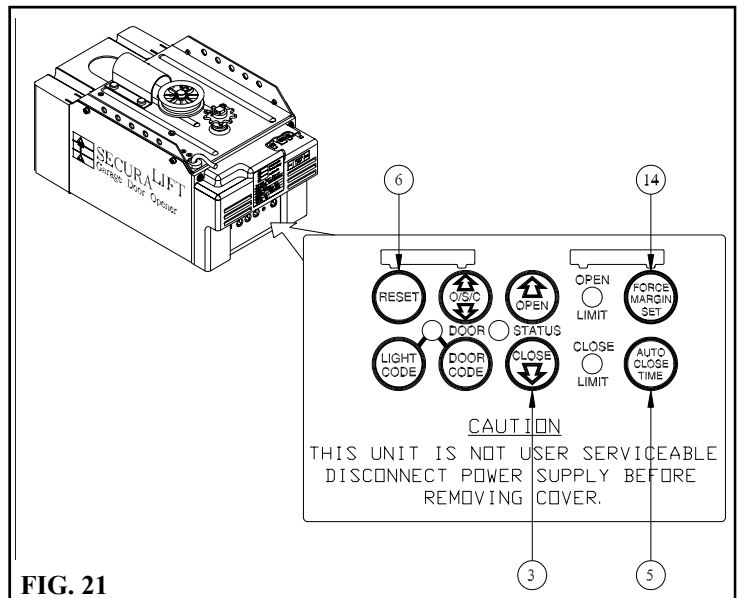

FIG. 21
2. Press and hold the blue Door Code button 2 (FIG. 21) on the Control Panel.